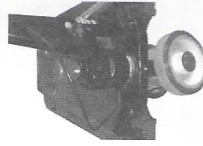

Fig.12: Progressive drive and parking brake
- a) Turn the pump 90 degree to right side, then pass through the brake cable behind the thrust plate.(Fig.12)